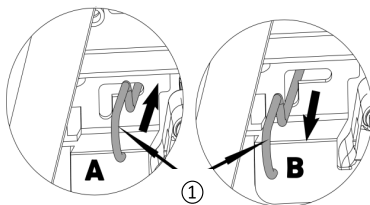

Figure 32
3. Make sure that hydrostatic transmission disengagement lever (Figure 32 ①) is at "B" (Figure 32).